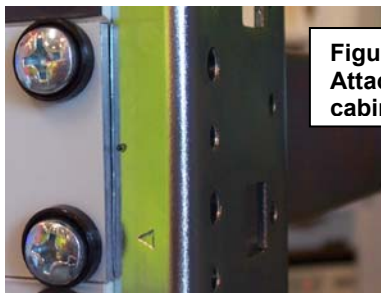

Figure 4 Battery on button and
- Operate the battery ON button (see fig. 4) for the start-up of the device, afterwards connect the power supply. If no power supply is available, the device is to be switched off again via the battery OFF button (see fig. 4), in order to save the batteries.